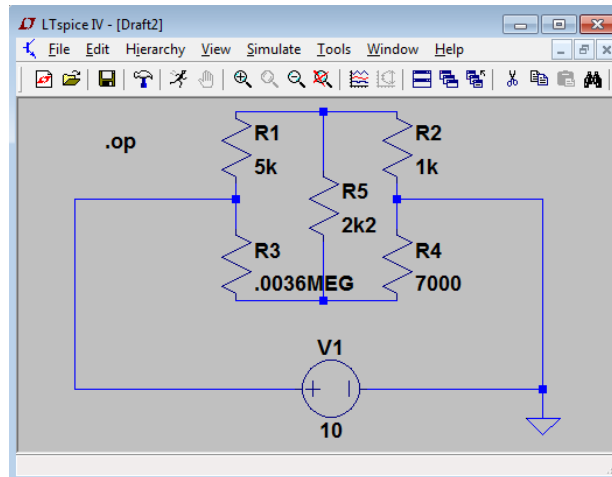

Figure 1: A series and parallel resistor circuit.
- Recreate the circuit shown in Figure 1 by clicking on the various component icons in the LTspice toolbar and then clicking to place various components on your schematic. Once you have a component on your schematic, you can right click on it to set its properties and value. Note that SPICE (including LTspice) uses a non-standard way of specifying value multipliers, shown in Table 1.
- The voltage source at the bottom of Figure 1 can be found by clicking on the “Component” button (just to the left of the “Move” hand on the toolbar) and selecting the “voltage” component from the base symbol library (possibly at `C:\Program Files (x86)\LTC\LTspiceIV\lib\sym\` on Windows).
1 mark for reproducing each of the Figures 1 and 2 in the lab script.